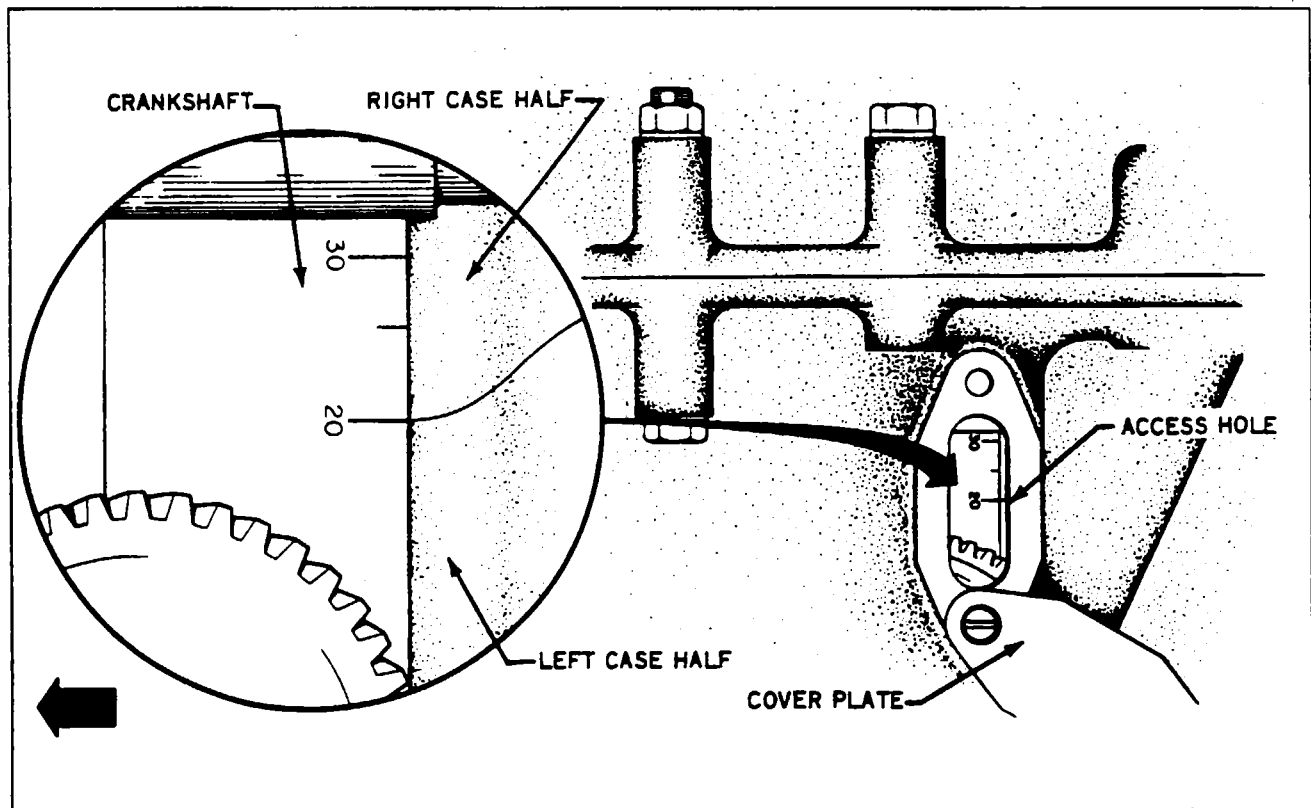

Figure 8-18. Engine Timing Marks
- b. Remove the timing hole cover, and sighting through the timing hole, continue to rotate crankshaft until the 20° timing mark on the crankshaft gear is in alignment with the parting surface of the crankcase. (Refer to Figure 8-18.)